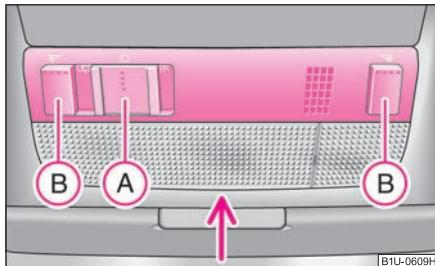

Fig. 46 Detail of the headliner: front interior lighting
- Press the switch **A** to the left, the symbol ⇒ fig. 46 appears.